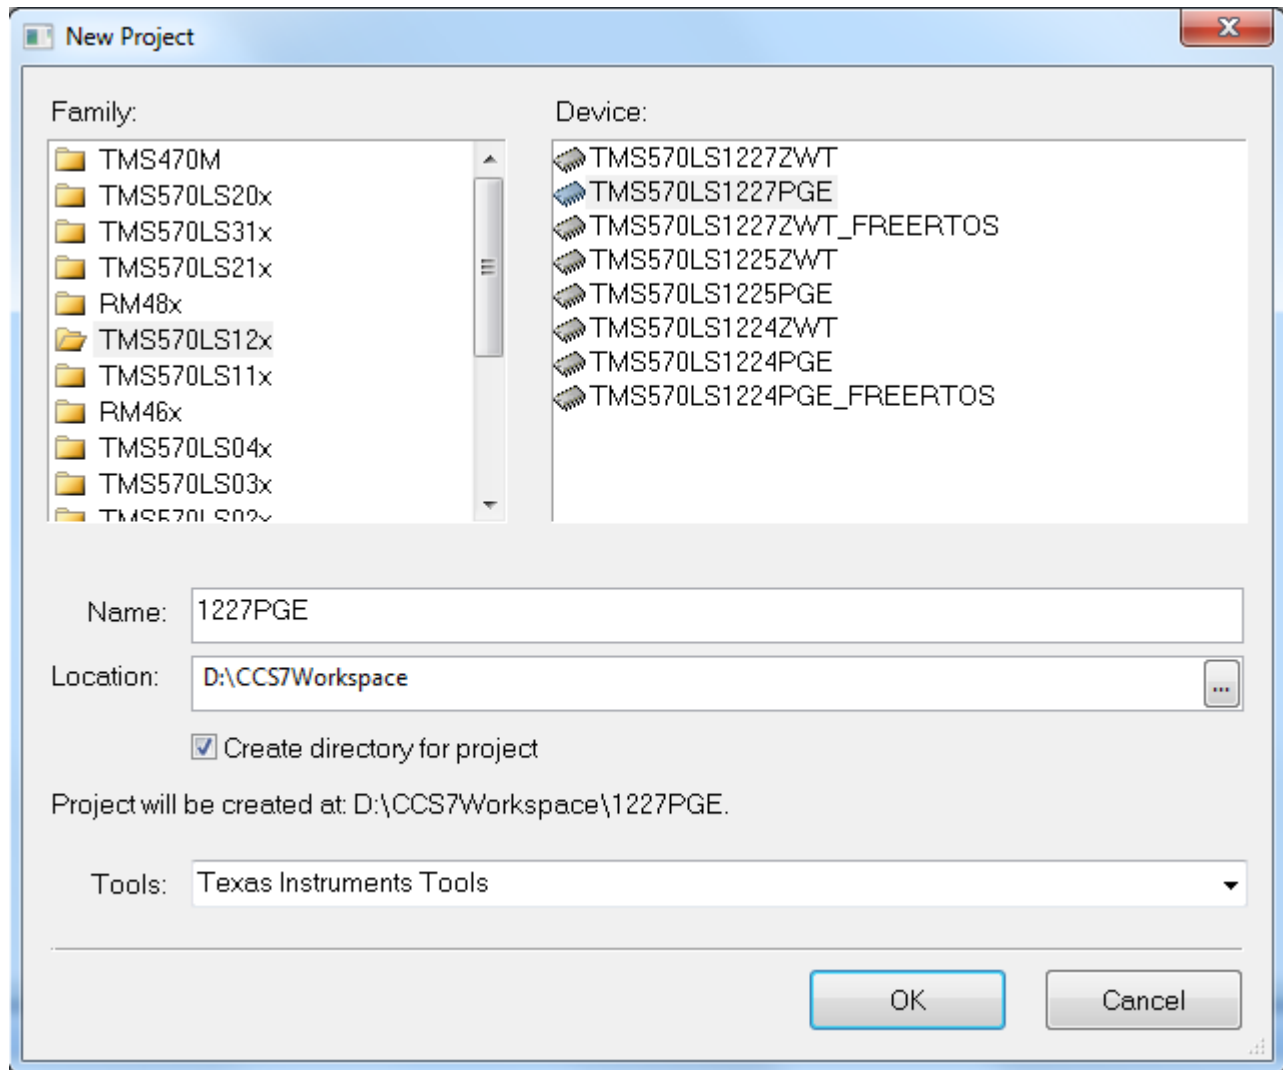

Figure 5. New Project
4. Create a HALCoGen project with the TMS570LS1227PGE, as shown in Figure 5.